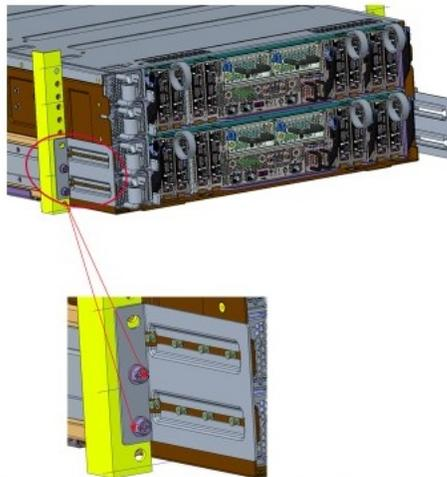

Figure 34. Inserting the enclosure
3. Slide the enclosure into the rack along the rails until the enclosure is fully inserted. (See Figure 34 on page 74.)
4. Fit the rear retaining brackets as shown in Figure 34 on page 74.